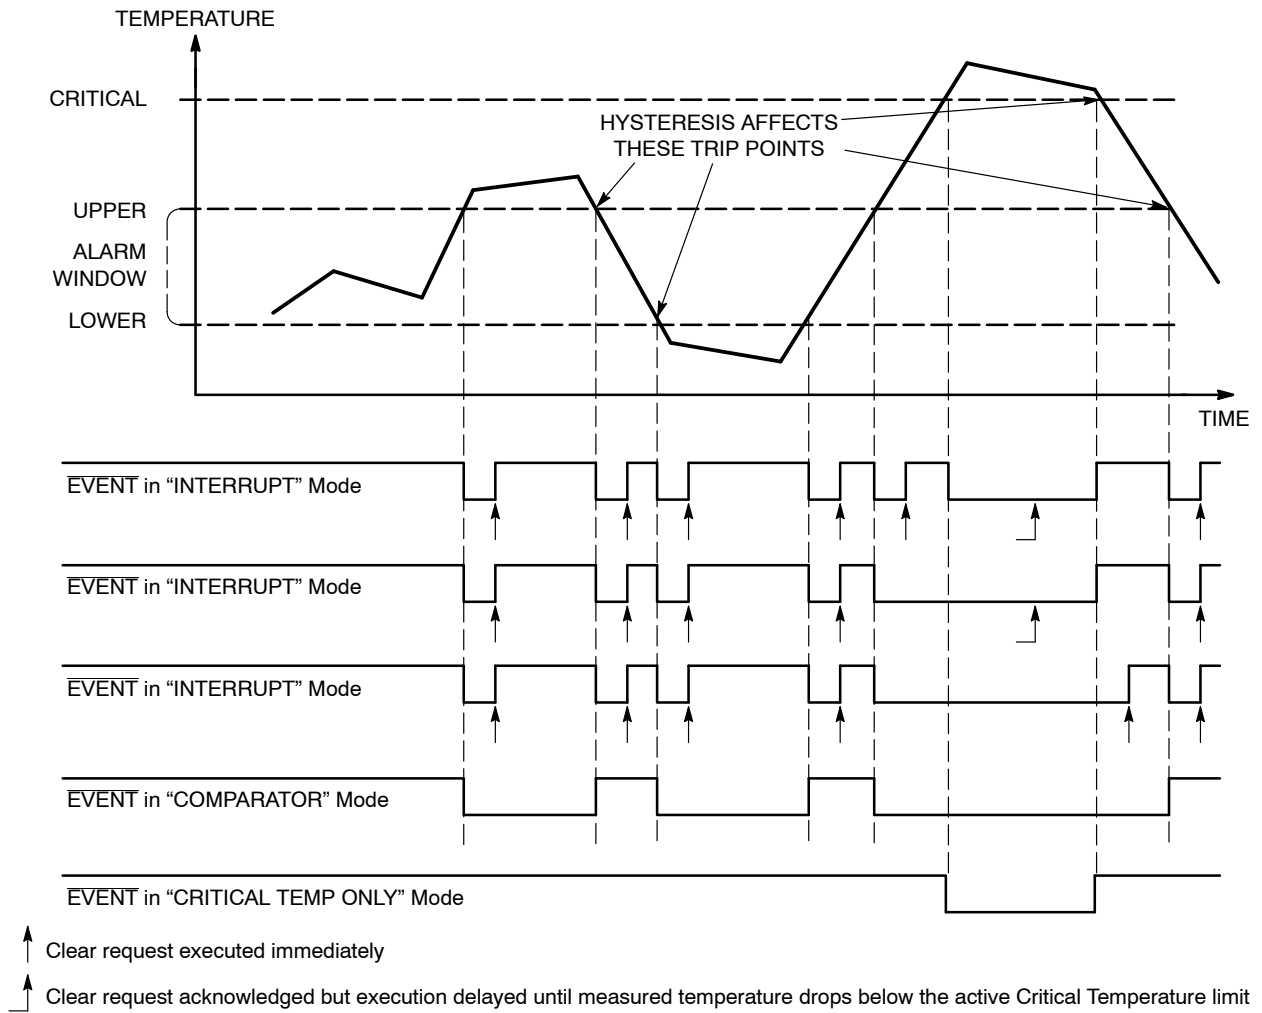

Figure 9. Event Detail
13. Writing a '1' to this bit clears an event condition in Interrupt mode, but has no effect in comparator mode. When read, this bit always returns 0. Once the measured temperature exceeds the critical limit, setting this bit has no effect (see Figure 9).
The $\overline{\text{EVENT}}$ output reacts to temperature changes as illustrated in Figure 9, and according to the operating mode defined by the Configuration register.